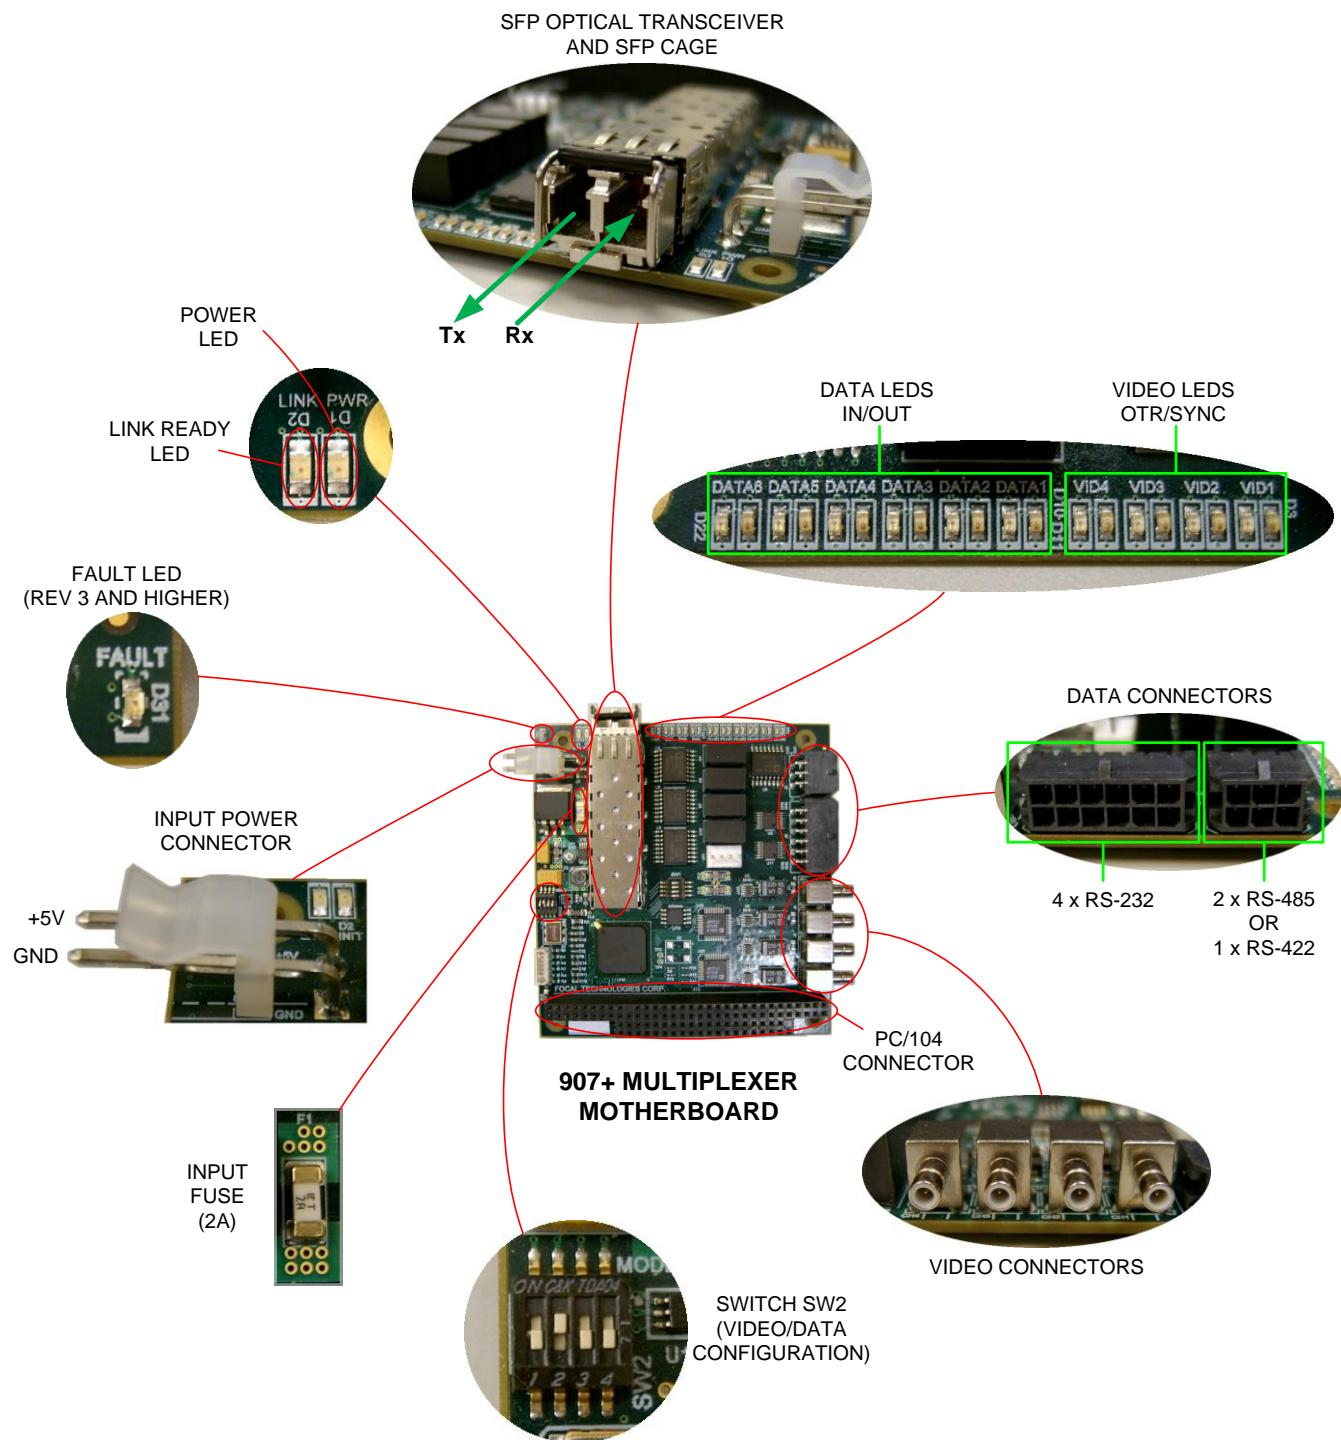

Figure 3: Model 907+ Part Locations
Please review the following guidelines and recommendations prior to handling or installing a Model 907+ system. Refer to Figure 3 below for location of connectors and critical items on the cards.
As shown in Figure 3, SFP optical transceivers typically have a transmit and receive optical bushing (LC type), which requires dual fiber operation. The transmit side of the remote transceiver should be connected to the receiver side of the console transceiver and vice versa, i.e. the optical connections must be crossed over. When using bidirectional or "bid" transceivers, which have a built-in wavelength division multiplexer (WDM) to combine the uplink and downlink wavelengths on a single fiber, only a single connection is required. In some cases an external WDM is used to combine the uplink and downlink on a single fiber, and the external fiber system must be connected to the "common" port of this configuration. Typically the optical connections for systems with external couplers are described by the corresponding 8000 series optical configuration drawing for the system.
Figure 3 shows the location of the power connector and fuse on the 907+ motherboard. Expansion cards stacked on the motherboard typically draw power/current through the PC/104 connector. Power access points and current draw for stacks are indicated in the corresponding 8000 series installation drawings.
DIP switches are set to either on (1) or off (0). Circuit 1 is leftmost when reading the text on the switch. The DIP switches shown in Figure 3 are for reference only. The DIP switches settings are described by the configuration drawings 907-2035-00 (907+R) and 907-2036-00 (907+C). Switch bank SW1 is for factory settings only and should not be changed without consulting Focal.